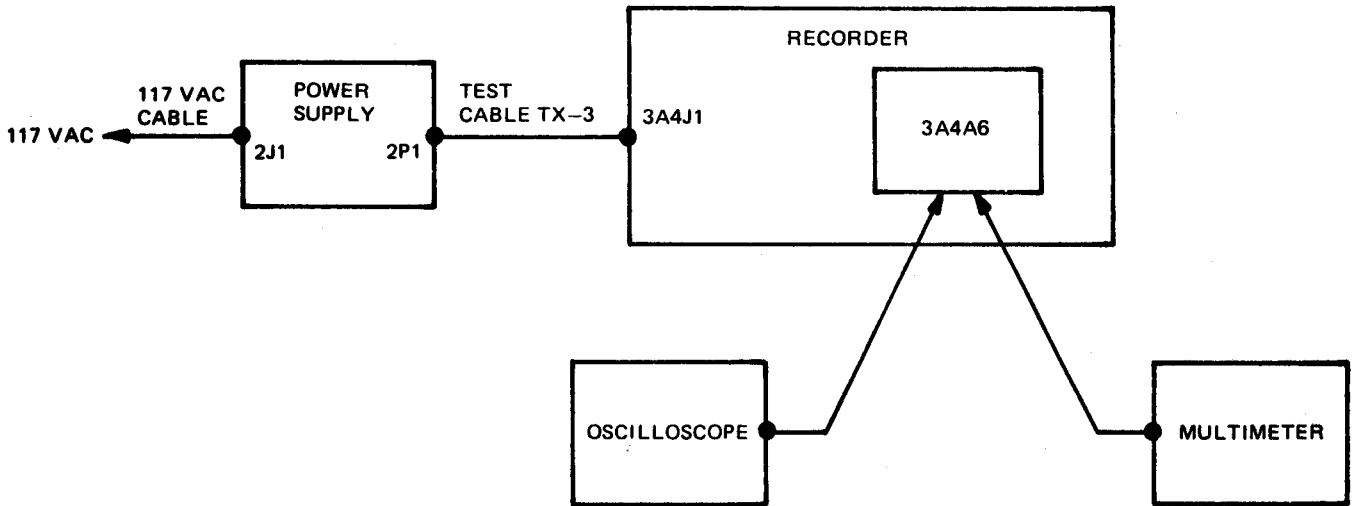

Figure 3-17. Capstan Motor Servo Circuit, Equipment Setup
- (1) Remove recorder housing, refer to paragraph 3-25.
- (2) Connect equipment as shown in figure 3-17.
- (3) Insert blank cassette into recorder.